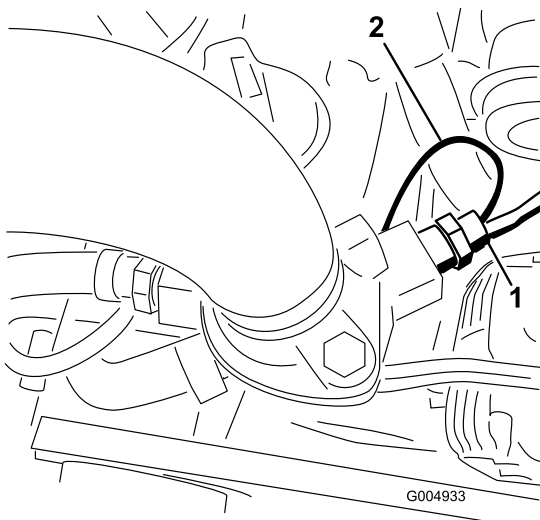

Figure 24
20. Install the new dual contact switch to the right side of the engine thermostat housing (Figure 24).